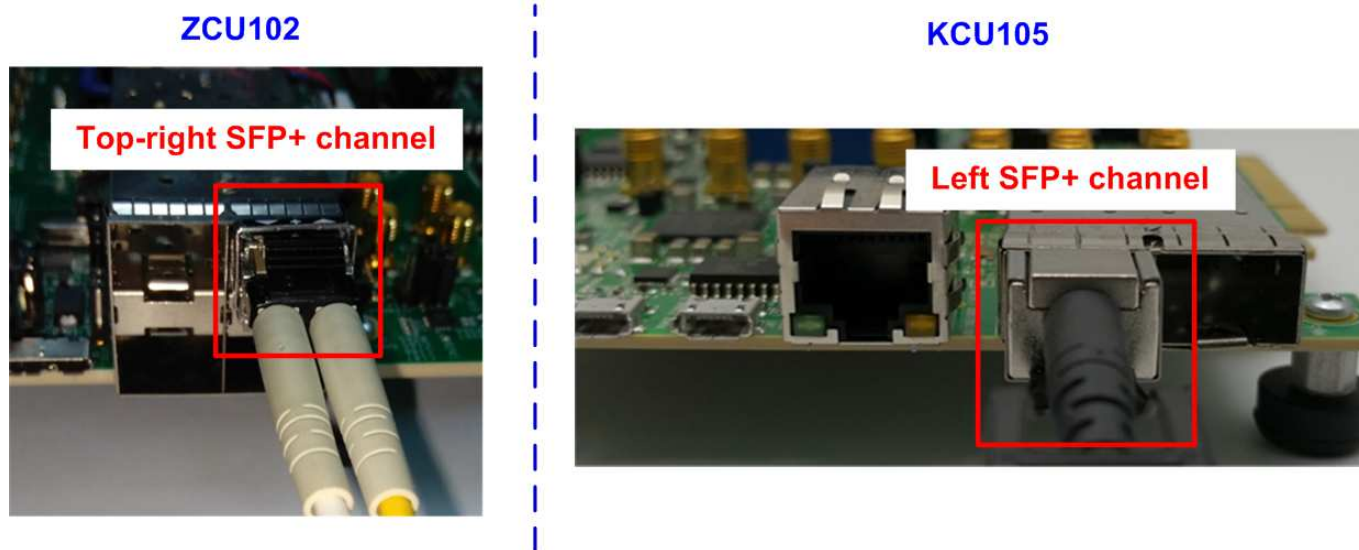

Figure 4-3 SFP+ channel using on ZCU102/KCU105 board
- 5) Insert 10-Gigabit SFP+ DAC or SFP+ transceiver with optical cable between FPGA board and PC. Figure 4-3 shows active channel to run the demo on ZCU102 and KCU105.